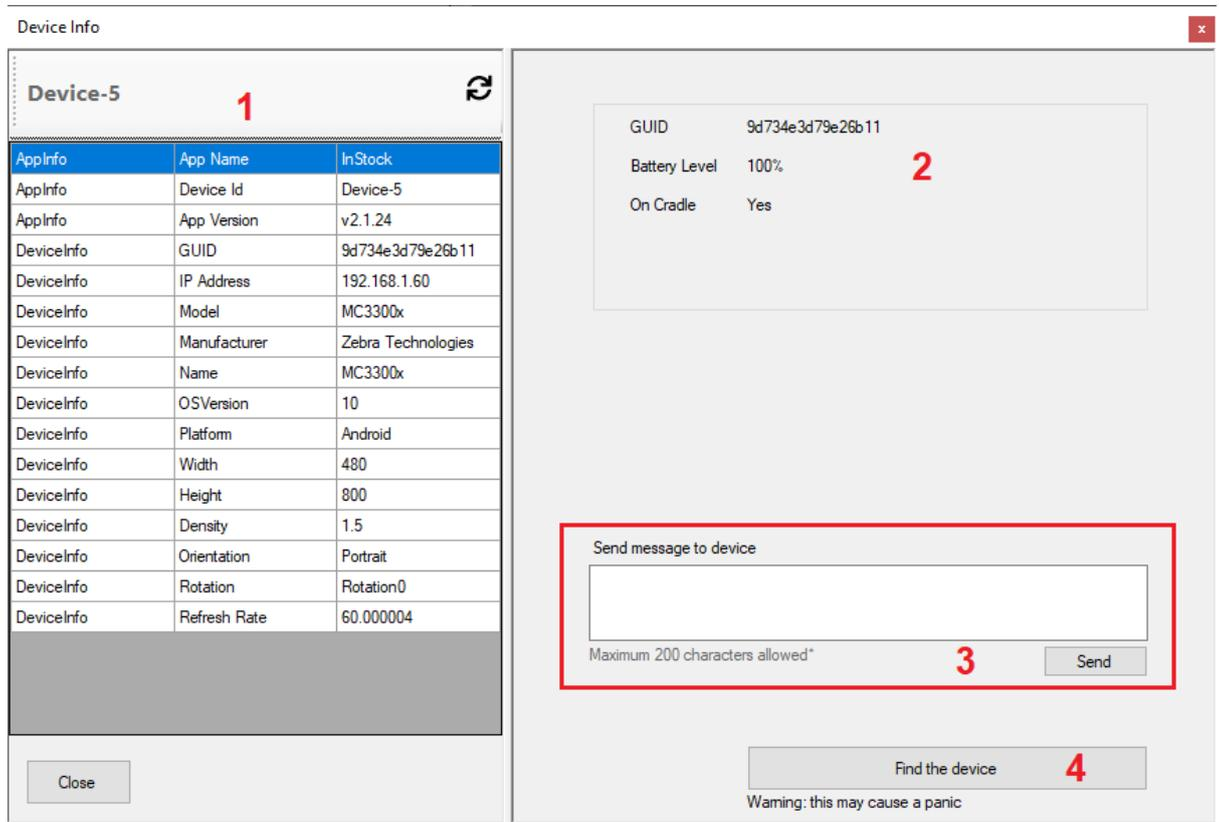

Figure 3
9. Device Information (see figure 3)
Device Information	Device Information option will show information about the device, i.e. Ip Address, App version, Battery status. This option is only available if the device is connected to the Admin console. See Figure 3.